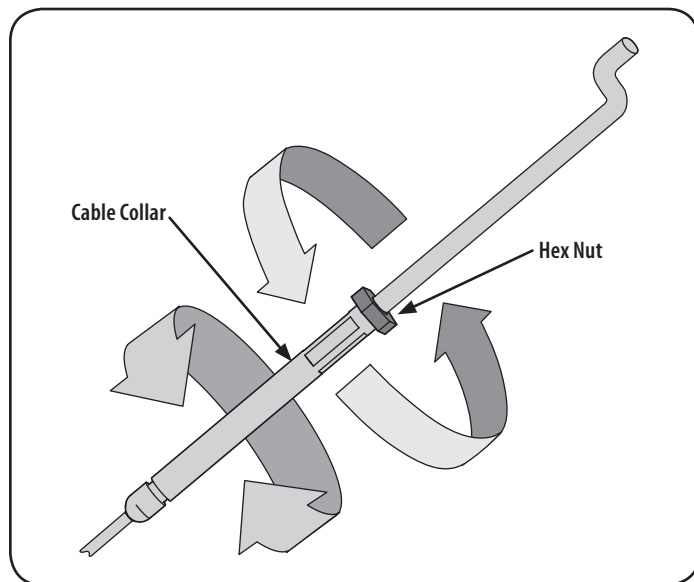

Figure 10
3. Adjust the forward clutch cable by loosening the hex nut. See Figure 10.
4. Turn the cable collar section one or two turns to increase or decrease tension on the cable. See Figure 10.
5. Retighten the lock nut against the cable collar. See Figure 10.